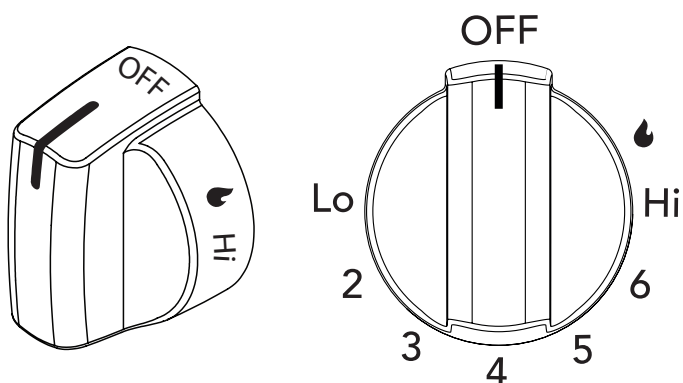

Figure 7: Surface control knob
2. Push the burner's surface control knob in and turn counter clockwise to the "🔥" lite position (Figure 7).